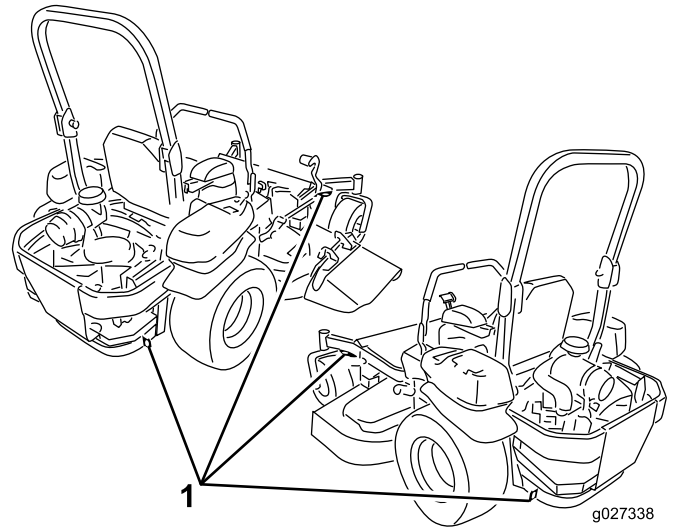

Figure 37
5. Use the tie-down loops on the machine to securely fasten it to the trailer or truck with straps, chains, cable, or ropes (Figure 37).